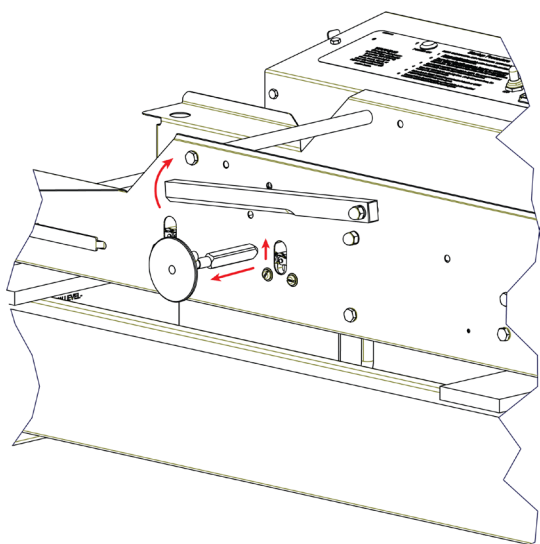

Figure 12
4. Swing the turner cam weight up out of position. See Figure 12.